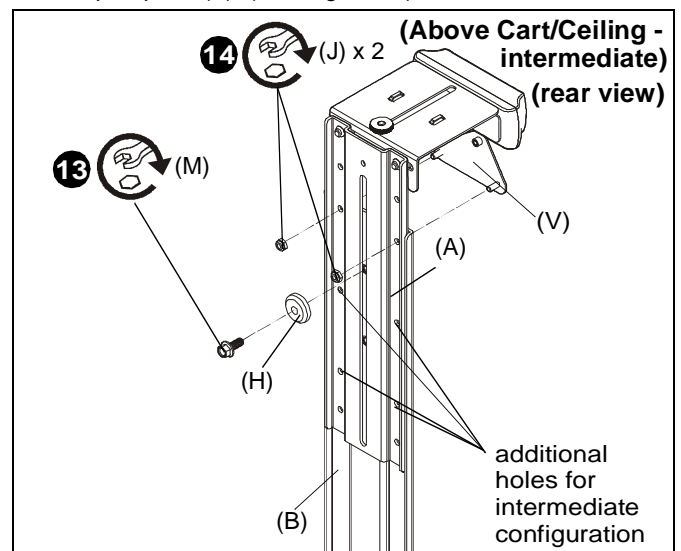

Figure 30
13. (For Intermediate extension) Use 1/4-20 x 5/8" hex head flange bolt (M) and center washer (H) to secure upright bracket (A) to main bracket (B). (See Figure 30)
14. (For Intermediate extension) Use two #10-24 lock nuts (J) to secure upright bracket (A) to main bracket (B) and adapter plate (V). (See Figure 30)